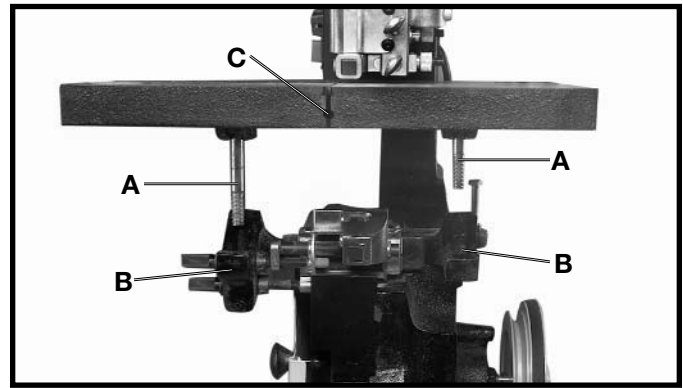

Fig. 19
2. Align the two table studs (A) Fig. 19, in the bottom of the table, with the two holes in the trunnion assemblies (B). **NOTE: MAKE SURE THE SLOT (C) FIG. 19, IN THE TABLE IS FACING TOWARD THE FRONT OF THE SAW.**